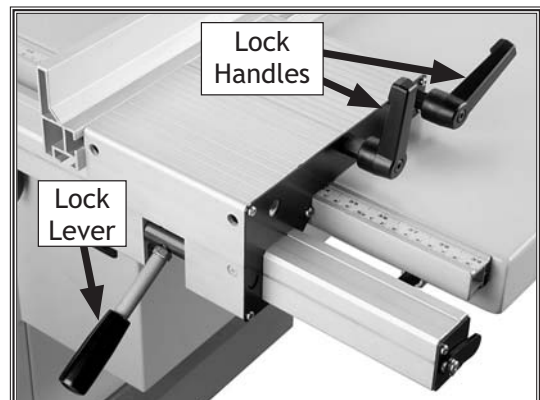

Figure 71. Rip fence micro-adjusting controls.
5. Tighten the lock handles (**Figure 71**) to secure the rip fence against the base.